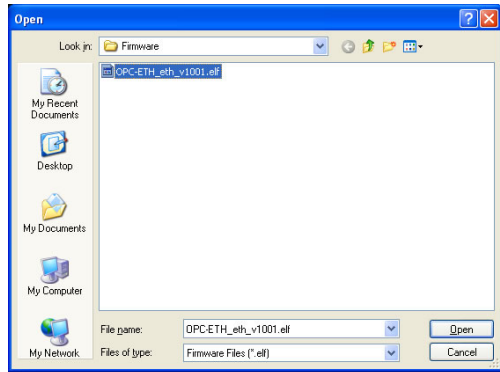

Figure 76: Locate Firmware File
2. Locate the firmware file (refer to Figure 76) and click Open.